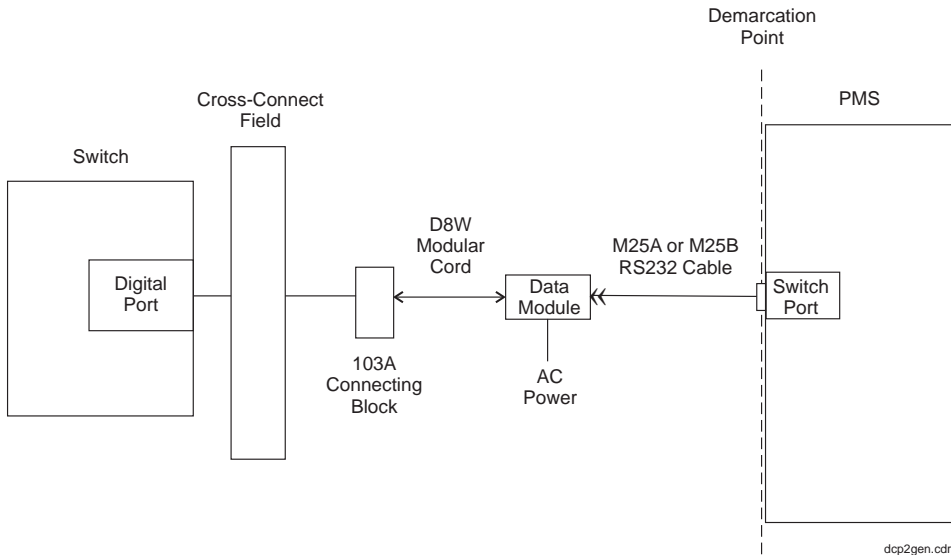

Figure 24. PMS link using a data module
Figure 24 shows the connection between the switch and the PMS.
5. Reconnect the unit as shown in Figure 24.
6. Reconnect the unit as shown in Figure 24.